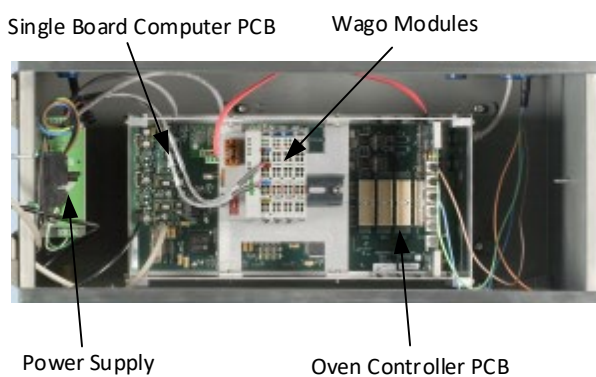

Fig. 8.5. Master Controller
8.2.2 Master controller chassis (see Figure 8.5)